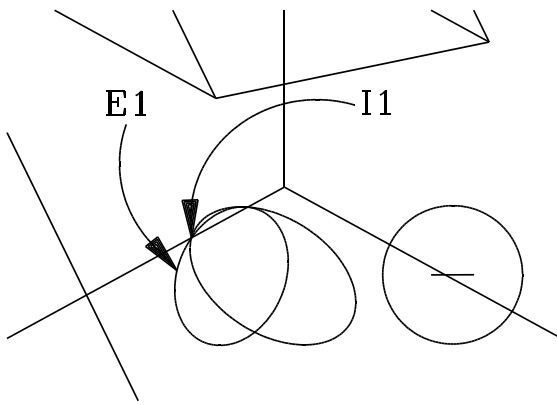

Figure 13
41. Click on WINDOW: ZOOM, then, in the isometric view, place the rubberband box around the two new ellipses to zoom in on them. (See Figure 13.)
43. Click on E1 (the left side of one ellipse), then click on I1 (the intersection of the ellipse and the line). (See Figure 13.)